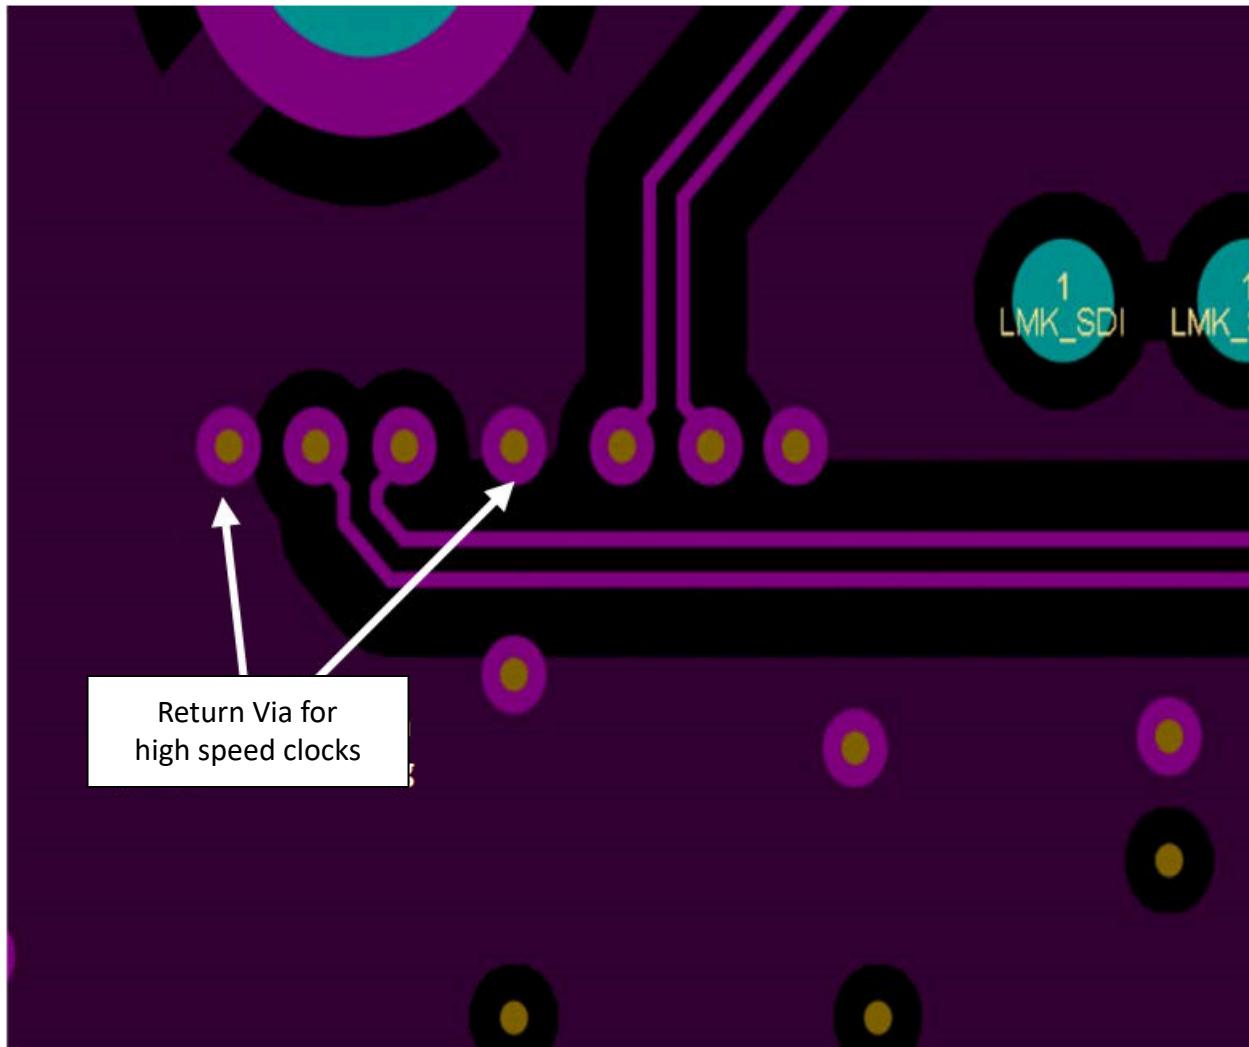
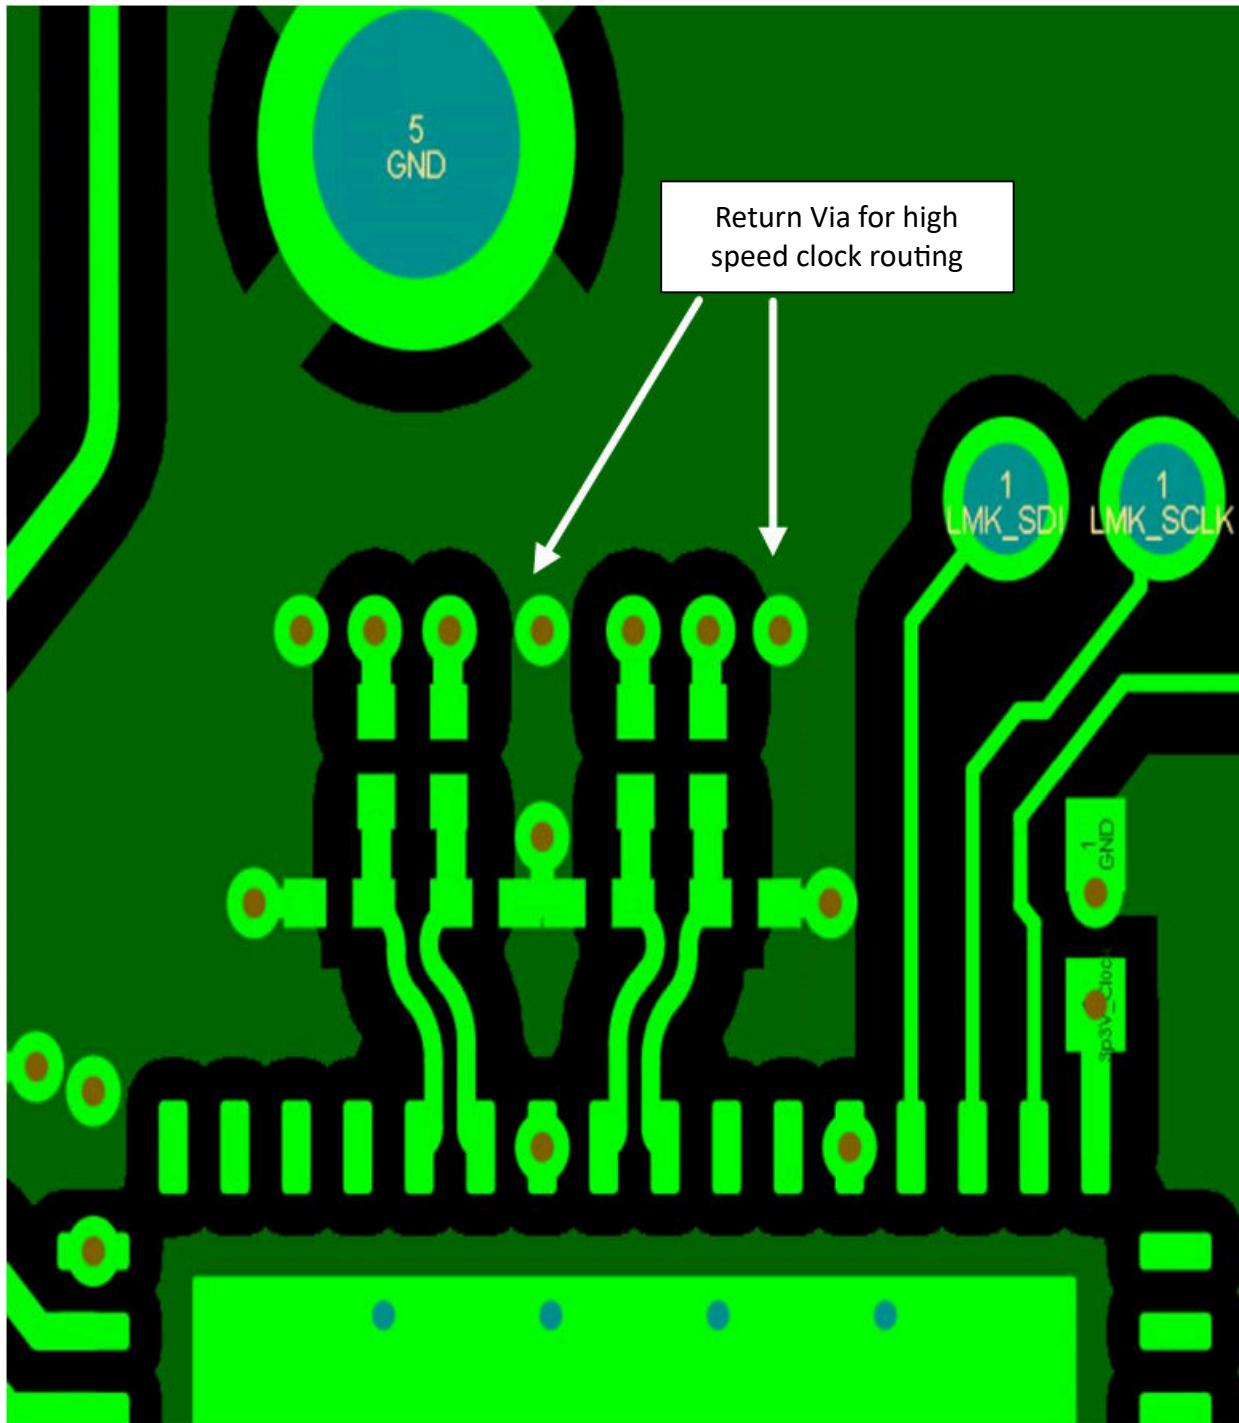

Figure 8-26. Return Vias for High Speed Clock
Figure 8-27. Return Vias for High Speed Clock Near Clock Generator
8. When high-speed signals must transition to another layer using vias, transition as far through the board as possible (top to bottom is best case) to minimize via stubs on top or bottom of the vias. If layer selection is not flexible, use back-drilled or buried, blind vias to eliminate stubs. Always place two ground vias ("return vias") close to critical high-speed signal trace via when transitioning between layers to provide a nearby ground return path. See Figure 8-26 and Figure 8-27 as examples.